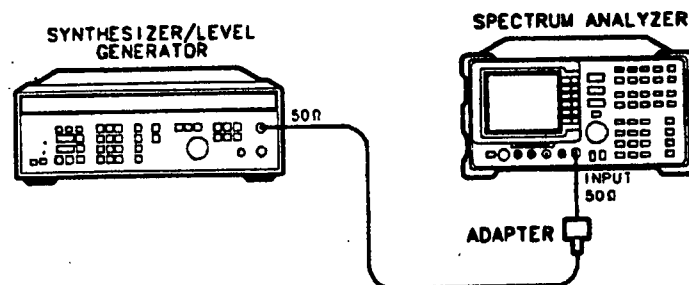

Figure 2-13. Cal Attenuator Error Correction Setup
3. Connect the 50Ω output of the HP 3335A to the spectrum analyzer INPUT 50Ω. See Figure 2-13.